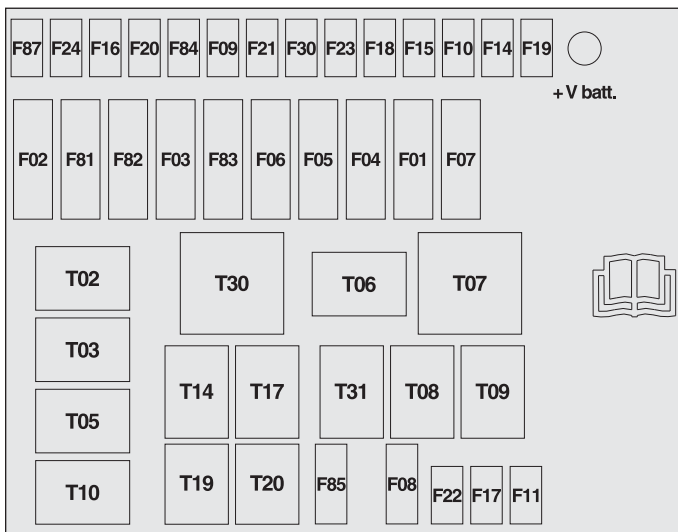

fig. 41
### Engine compartment control unit - fig. 41
**Engine compartment control unit - fig. 41**